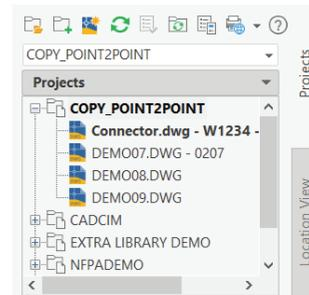

Figure 2-76 The **Copy_Point2Point** project with the drawings added to it
4. Choose the **No** button from this message box; the selected drawings are added to the **Copy_Point2Point** project, as shown in Figure 2-76. If the drawings are not displayed in the **Copy_Point2Point** project, choose **Refresh** from the **PROJECT MANAGER**.